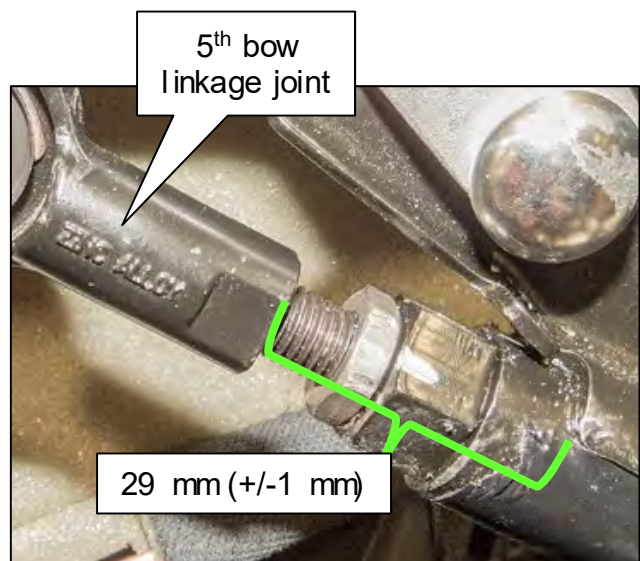

Figure 33
36. Measure the gap between the base of the 5th bow linkage joint to the flange shown in Figure 33.
- The length is measured from the base of the 5th bow linkage joint to the flange shown in Figure 33.